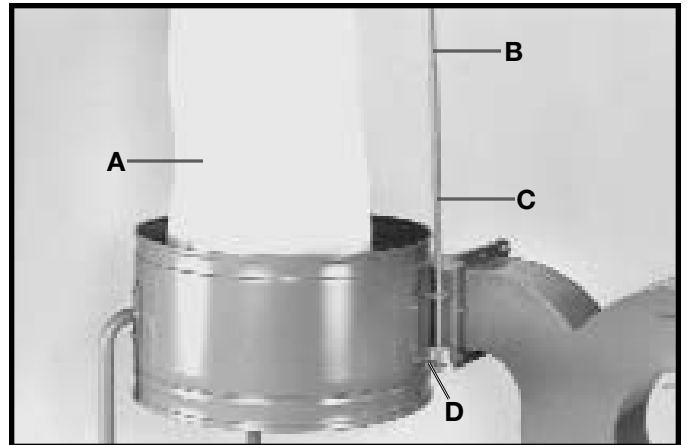

Fig. 23
2. Assemble extension rod (C) Fig. 23, into the end of filter bag support rod (B). Raise support rods (B) and (C), with filter bag (A) attached and place end of extension support rod into holes of bracket (D).